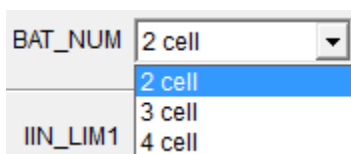

Figure 5: Battery Cell Count Configuration
3. Set the battery cell count (see Figure 5).